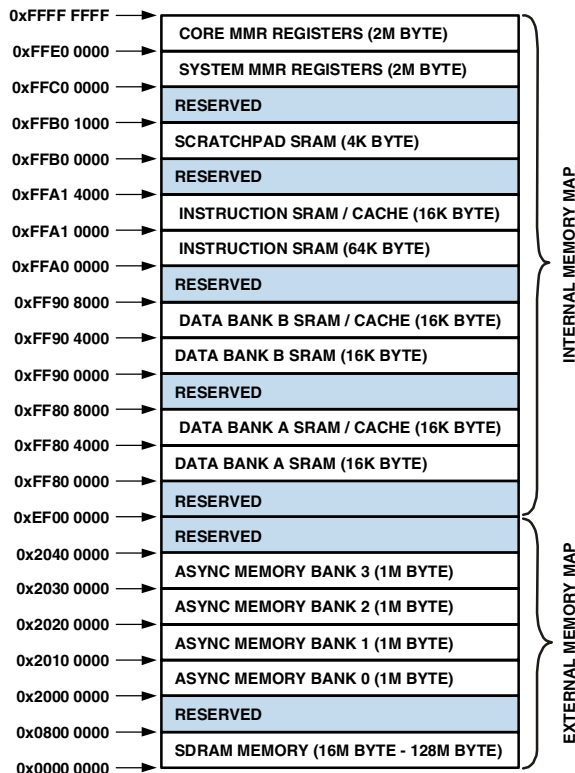

Figure 3. ADSP-BF533 Internal/External Memory Map
The ADSP-BF533 (HS) processor views memory as a single unified 4G byte address space, using 32-bit addresses. All resources, including internal memory, external memory, and I/O control registers, occupy separate sections of this common address space. The memory portions of this address space are arranged in a hierarchical structure to provide a good cost/performance balance of some very fast, low-latency on-chip memory as cache or SRAM, and larger, lower-cost and performance off-chip memory systems. See Figure 3 on page 5.